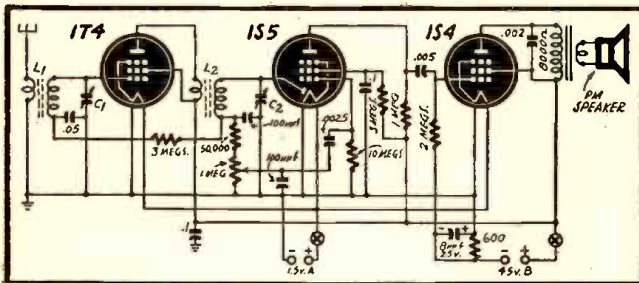

Fig. 1—Three-tube camera-type portable radio receiver.
A. The diagram (Fig. 1) shows a three tube T.R.F. receiver with one stage of R.F., a detector with audio amplifier, and a power amplifier stage to operate your 1½-inch PM speaker.